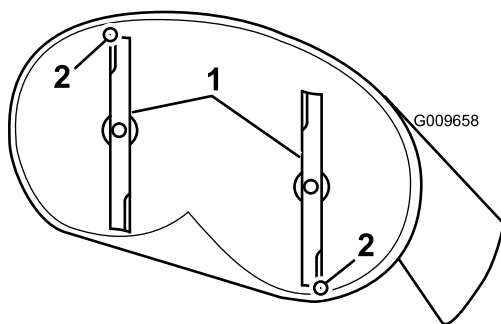

Figure 56
- Carefully rotate the blades so they are facing front to rear (Figure 56 and Figure 57).
8. After adjustment, check the front-to-rear slope again. Continue adjusting the nut until the front blade tip is 1/16-5/16 inch (1.6-7.9 mm) lower than the rear blade tip (Figure 56 and Figure 57).